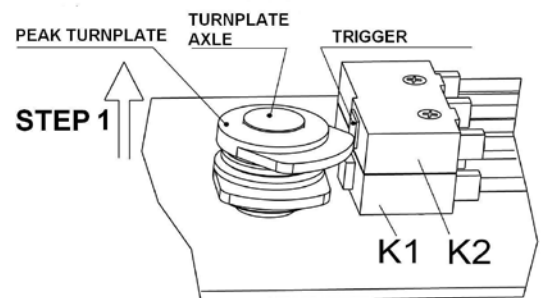

Fig.4
— 1 or 2 optional auxiliary switch(es), the function of which can be made by order. The operational angle of the damper actuator which has 2 limitators can be adjusted by setting the peak turnplate. The adjustable feedback position is larger than 60° on clockwise, and small than 30° on anti-clockwise. Please find the installation details at Fig.4. The default setting of one switch type is at 90°, and that of two switches type is at 0° and 90°.
2. Turn the axle to the needed position, then put the peak turnplate back, make sure the peak is just against the trigger. (As Fig.4)